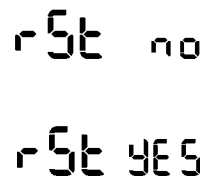

Figure 29: Display showing the options to reset to default (rSt yes) or to reject resetting to default (rSt no)
1. Press **user pref** key until **rSt no** or **rSt YES** appears in the display (Figure 29).